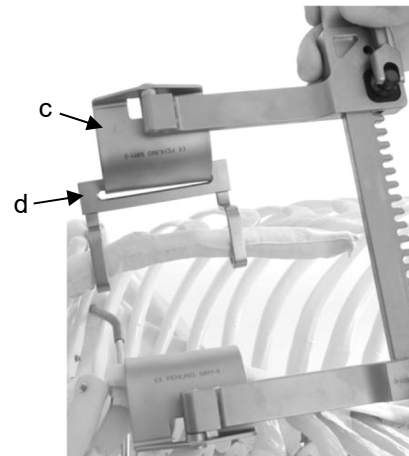

Fig. 10
- 6 In sternotomy with IMA exposure using the MRY-5 blades (c), the BAYKUT claw (d) can be pushed from the outside over the MRY-5 blade on the preparation side according to the IMA to be prepared so that the claws extend from median to lateral as far as possible under the sternum (see Fig. 10).